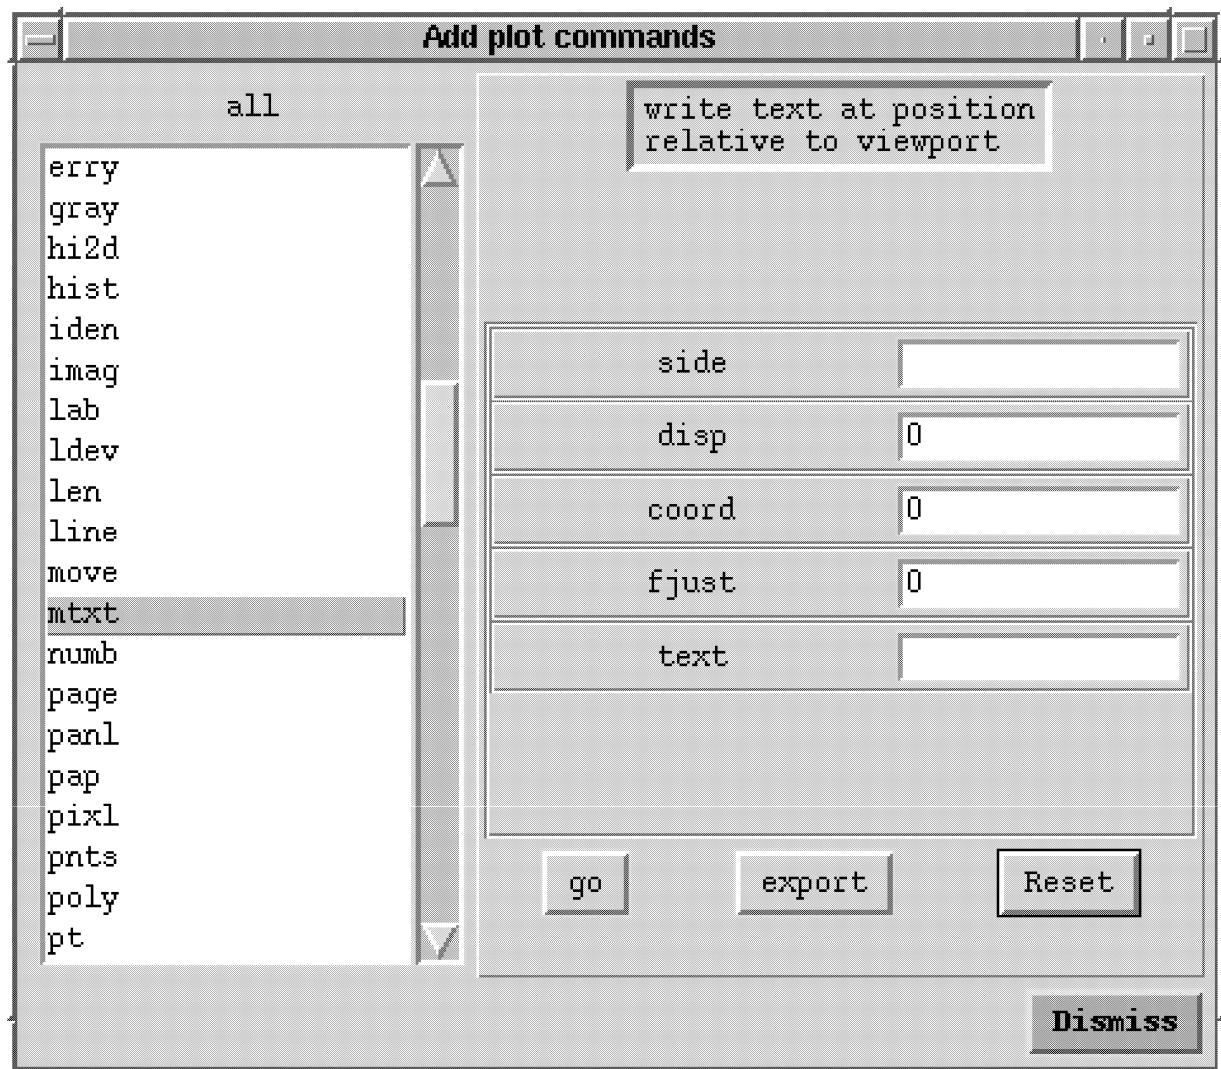

Figure 9: Add commands frame for Dish Plotter.
**B: Edit Menu** This is the standard pgplotter Edit menu. Add commands...: This allows additional PGPLOT commands to be added to the existing plot. For example, additional labeling or fiducial lines may be easily added. The Add commands brings up a frame with a list of all of the available PGPLOT commands. Selecting one brings up a brief explanation along with the various arguments required. An example frame is shown in Figure 9.